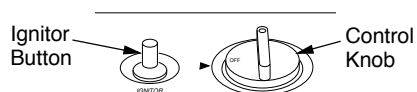

Figure 19 - Control Knob In The OFF Position
4. Wait five (5) minutes to clear out any gas. Then smell for gas around heater and near the floor. If you smell gas, **STOP!** Follow "B" in the safety information above. If you don't smell gas, go to the next step.
5. Press in control knob and turn counter-clockwise ↻ to the PILOT position. Keep control knob pressed in for five (5) seconds (see Figure 19).